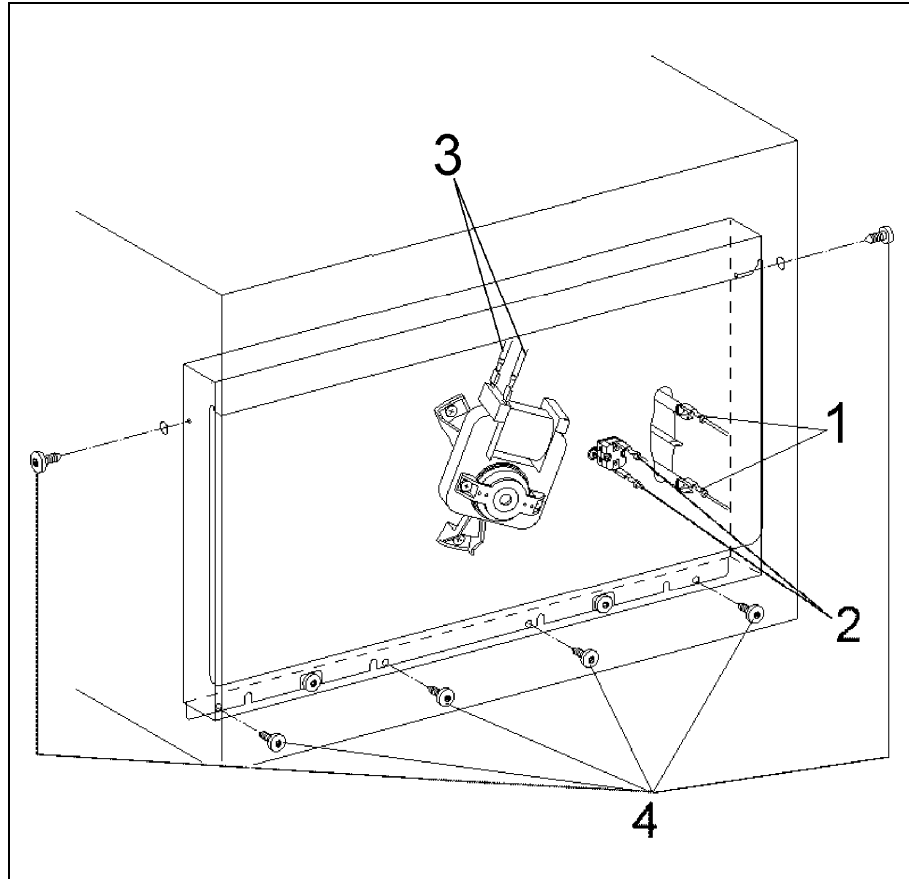

Figure 032-6: Fan Impeller Removal
3. Disconnect the connections from the convection heater (Figure 032-6, Item 1), thermostat (Figure 032-6, Item 2) and convection fan (Figure 032-6, Item 3).
4. Remove the two T20 screws securing the sides of the fan rear panel (Figure 032-6, Item 4).
6. Remove the four T20 screws securing the bottom of the fan rear panel (Figure 032-6, Item 4).